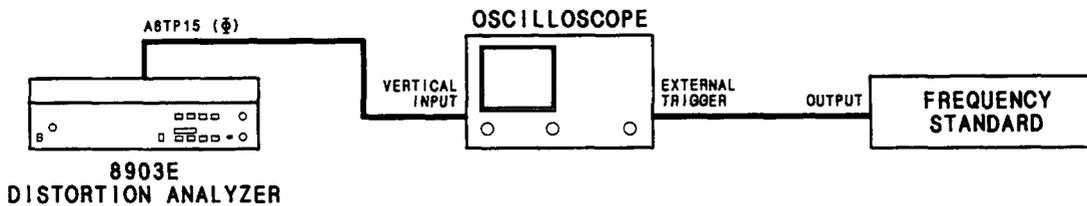

Figure 5-1. Internal Reference Frequency Adjustment Test Setup
2. Connect the equipment as shown in Figure 5-1. (The figure shows the setup for house-standard frequencies of 2 MHz or lower. If the frequency of the frequency standard is 5 or 10 MHz, reverse the vertical input and external trigger connections on the oscilloscope.)